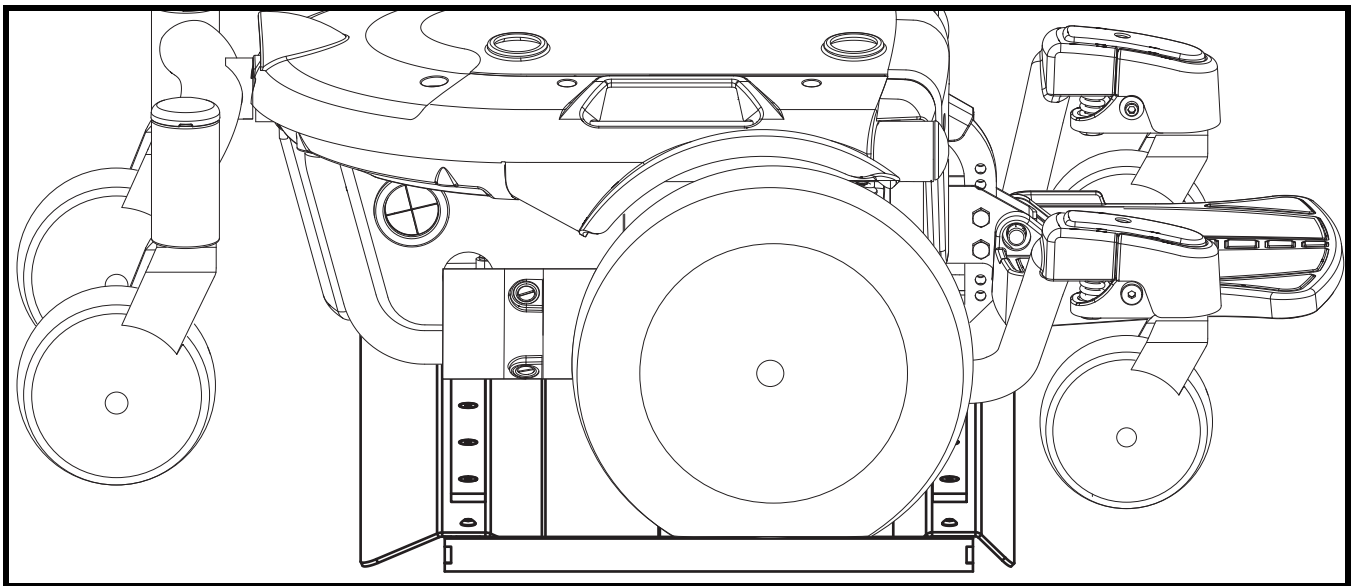

Figure 12. Wheel Placement on Outlander LP Platform
**NOTE:** The Outlander LP does not require wheel chock installation. The platform's design supports the mobility device wheels so that wheel chocks are not required. See figure 12.